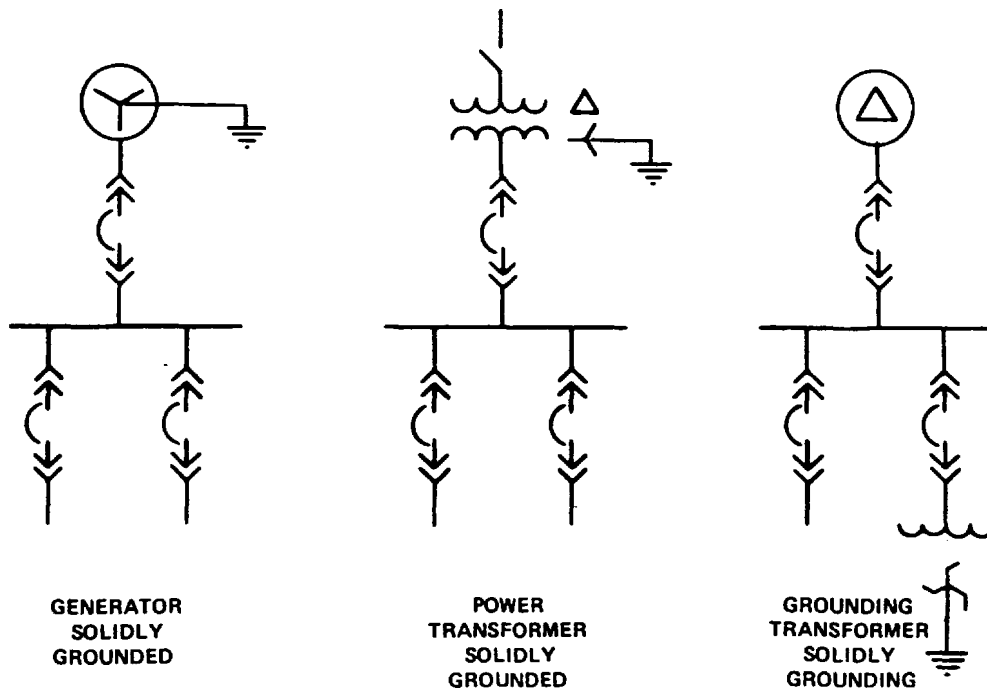

Figure 8-4. Methods of solidly grounding the neutral of three-phase systems.
(1) *Ungrounded system.* An ungrounded system is one in which there is no intentional connection between the neutral or any phase and ground. Ungrounded system implies that the system is capacitively coupled to ground. The neutral potential of an ungrounded system under reasonably balanced load conditions will be close to ground potential because of the capacitance between each phase conductor and ground. When a line-to-ground fault occurs on an ungrounded system, the total ground fault current is relatively small, but the voltages to ground potential on the unfaulted phases will be high. If the fault is sustained, the normal line-to-neutral voltage on the unfaulted phases is increased to the system line-to-line voltage (i.e. square root of three (3) times the normal line-to-neutral value). This, over a period of time, breaks down the line-to-neutral insulation and hence results in insulation failure. Ungrounded system operation is not recommended because of the high probability of failures due to transient overvoltages caused by restriking ground faults. The remaining various grounding methods can be applied on system grounding protection depending on technical and economic factors. The one advantage of an ungrounded system that needs to be mentioned is that it generally can continue to operate under a single line-to-ground fault without an interruption of power to the loads.
(2) *Solidly grounded system.* A solidly grounded system is one in which the neutral (or occasionally one phase) is connected to ground without an intentional intervening impedance (fig 8-4). On a solidly grounded system in contrast to an ungrounded system, a ground fault on one phase will result in a large magnitude of ground current to flow but there will be no increase in voltage on the unfaulted phase. Solid grounding is commonly used in low voltage distribution systems. Solid grounding has the lowest initial cost of all Wounding methods. It is usually recommended for overhead distribution systems supplying transformers protected by primary fuses. However, it is not the preferred scheme for most industrial and commercial systems, again because of the severe damage potential of high magnitude ground fault currents. The NEC Article 250-5 (1990) requires that the following classes of systems be solidly grounded: